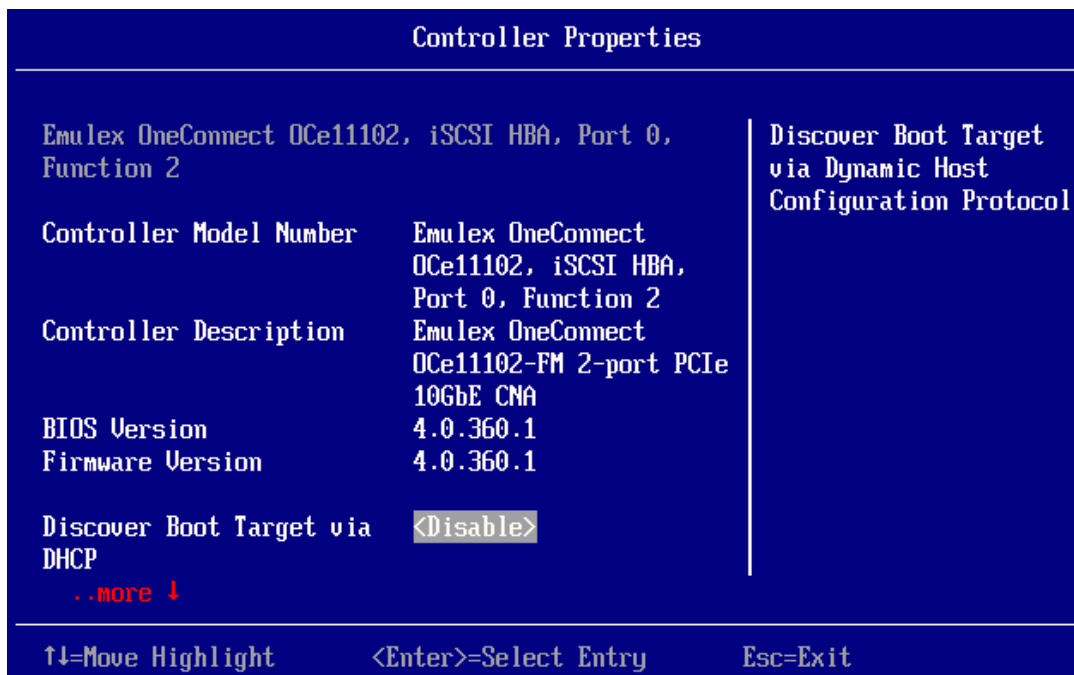

Figure 11-7 Controller Properties Screen
1. On the Controller Properties screen (Figure 11-7), set **Discover Boot Target via DHCP** to **<Enable>** and press **<Enter>**.
1. On the Controller Properties screen (Figure 11-7), set **Discover Boot Target via DHCP** to **<Disable>** and press **<Enter>**.